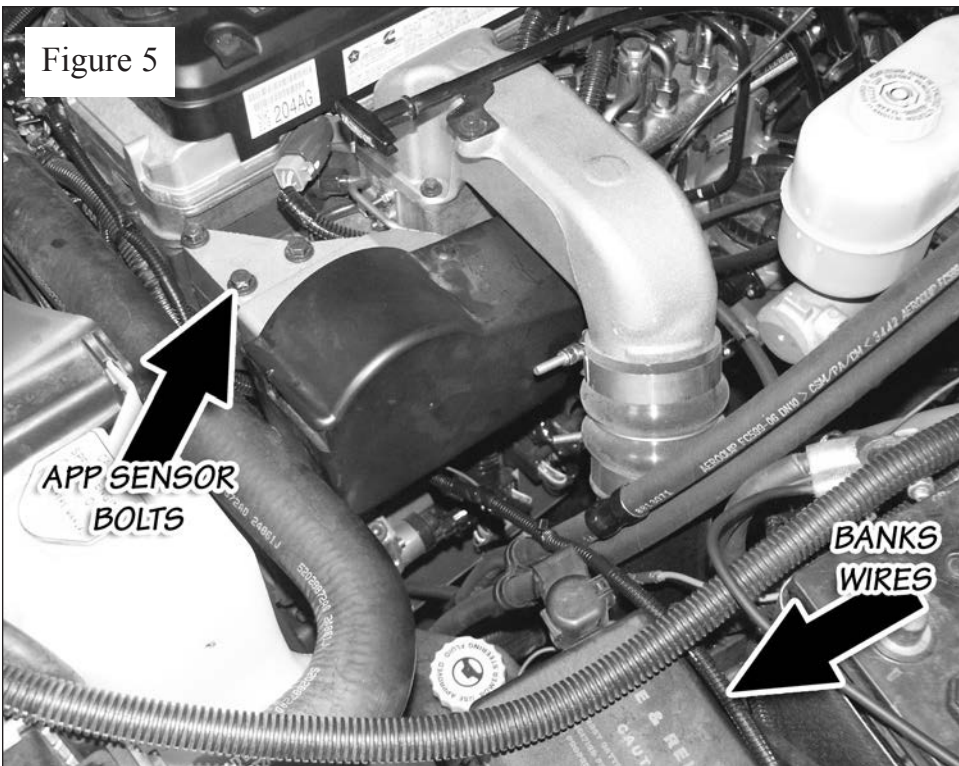

Figure 5
**14.** Route the Banks Brake GRAY and BLUE wires behind the battery box on the driver side along the fender with the factory harness. They should come around between the battery and the fuse box toward the engine block. See **Figure 5**. Shorten the BLUE wire by 10" and install a male spade connector.
**20.** Route the Banks Brake GRAY and BLUE wires behind the battery box on the driver's side along the fender with the factory harness. They should come around between the battery and the fuse box toward the engine block. See **Figure 5**. Install a spade on the BLUE wire.
They should come around between the battery and the fuse box toward the engine block. See **Figure 5**. Shorten the BLUE wire by 10" and install a male spade connector.
along the fender with the factory harness. They should come around between the battery and the fuse box toward the engine block. See **Figure 5**. Install a spade on the BLUE wire.